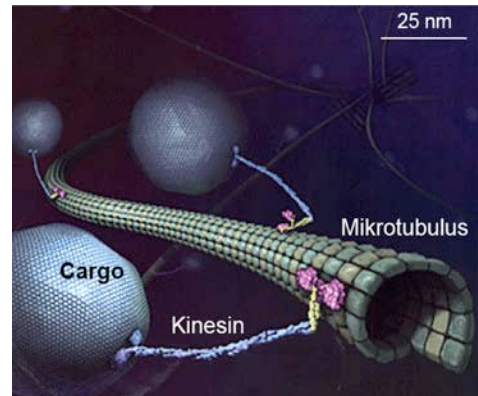

Figure 1: The motor protein kinesin-1 walks along microtubules, transporting vesicles from the cell center to the periphery.
Cytoskeletal motor proteins, such as kinesins, dyneins and myosins, are essential in every cell. Their functions range from intracellular transport over the movement of muscles to chromosome segregation during cell division. In this practical we will focus on *kinesin-1*, a motor protein that moves along *microtubule* filaments. Kinesin-1 is involved in transporting membrane-bounded organelles - such as vesicles - over long distances through the cell (see Fig. 1).
- Every figure must be mentioned in the text (e.g. “see Fig. 1”).